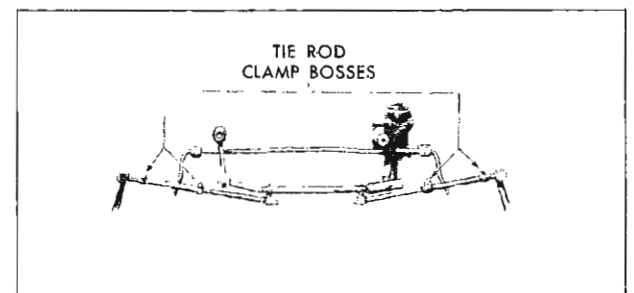

Fig. 3—Toe-In Adjustment
2. Loosen clamp bolt at each end of each tie rod and adjust to a total of $\frac{1}{8}$ " to $\frac{1}{4}$ " toe-in (fig. 3).